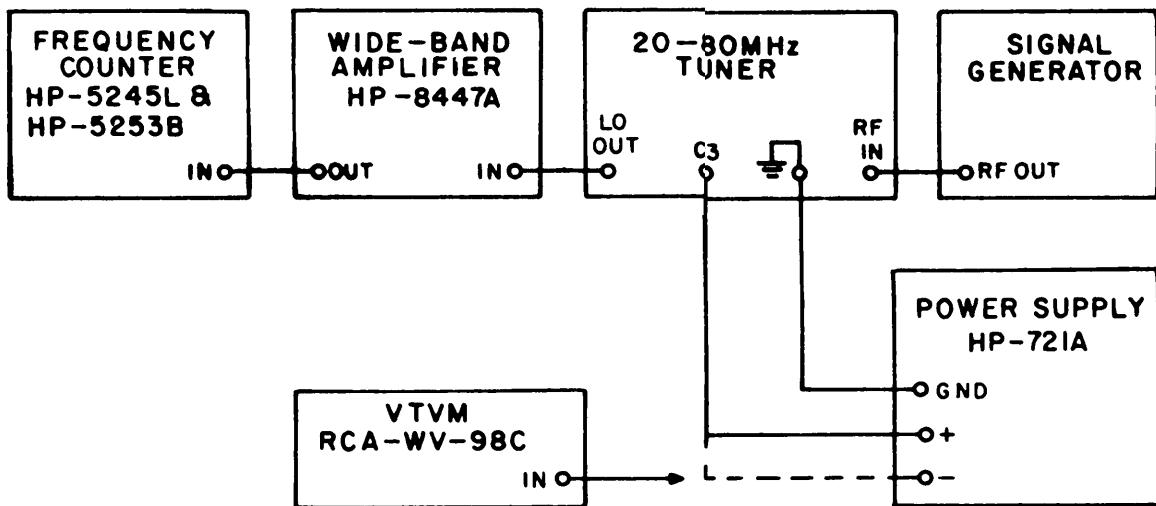

Figure 4-2. Test Setup, DAFC Range Check Circuit Connection
- (1) Interconnect the equipment as shown in Figure 4-2.
- (2) Set the wide band amplifier for 20 dB gain.
- (3) Adjust the tuner and signal generator for 20 MHz. The LO reading on the frequency counter will be 30 MHz; 10 MHz IF offset +20 MHz tuned frequency.
- (1) Interconnect the equipment as shown in Figure 4-2 with the following exceptions.
- (3) Adjust the tuner and signal generator for 80 MHz. The LO reading on the frequency counter will be 101.4 MHz; 21.4 MHz IF offset +80 MHz tuned frequency.
- (4) Adjust the power supply for -4.0 Vdc using the VTVM.
- (5) Connect the power supply to the DAFC input C22 on the RF Tuner.
- (6) The frequency counter reading should be 101.440 MHz minimum.
- (7) Change the power supply connection to produce +4.0 Vdc.
- (8) The frequency counter reading should be 101.360 MHz maximum.
- (9) Repeat steps (3) through (8) with the signal generator and tuner tuned to 250 MHz. The frequency counter reading at the LO output will be 271.4 MHz, 21.4 MHz IF offset +250 MHz tuned frequency.